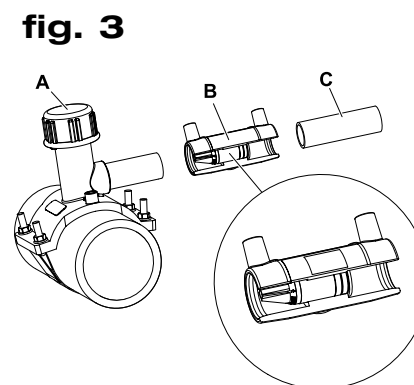

fig. 3
1. Connect the Electrofusion Coupler [B] to the service line (Fig.3) (follow product instruction).